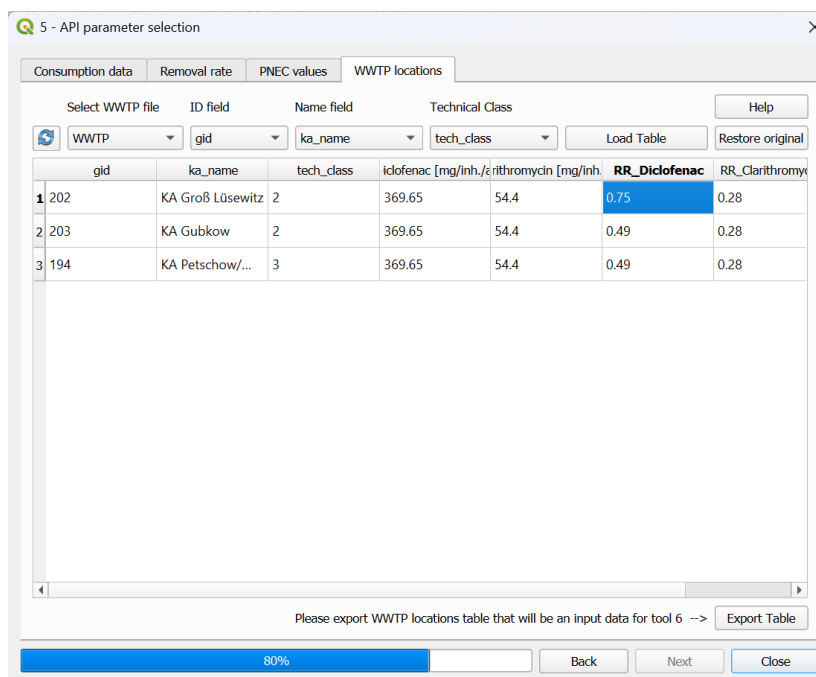

Figure 5. Interface of the "Custom table" window within the API parameter selection tool.
- After all the edits, click on "Export Table" and save the output. This table will be an input for tool 6 and it is possible to share it with other users too (Fig. 5).